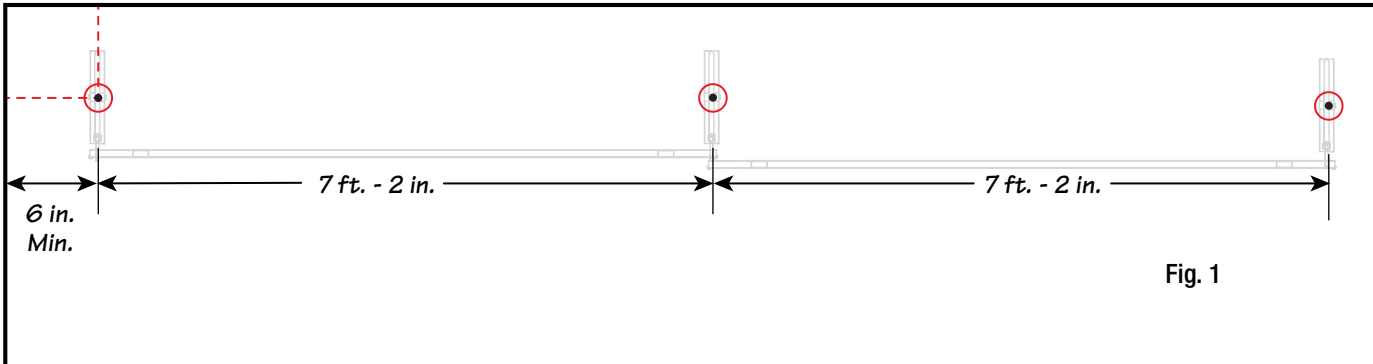

Fig. 1
1. Measure distance for spacing of anchors/plugs up to 7 ft. 2 in.. Mounting holes must maintain 6 in. minimum distance from the floors edge. Fig. 1